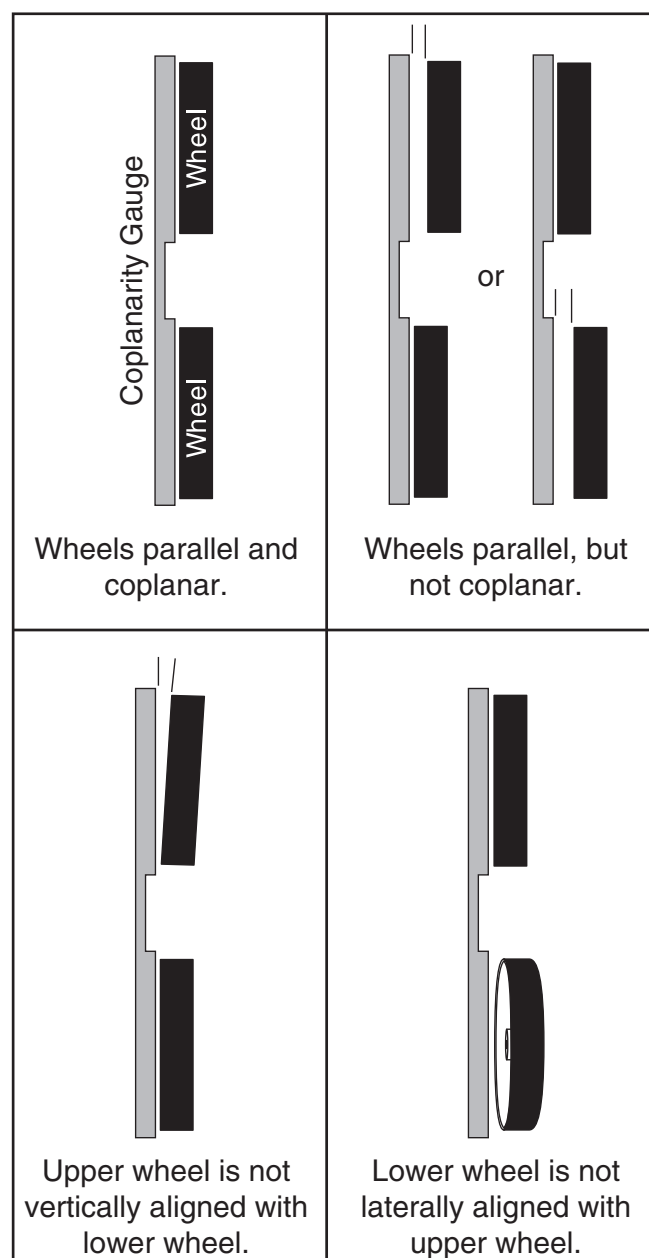

Figure 107. Wheel alignment illustration.
When wheels are coplanar (see **Figure 107**), the bandsaw is more likely to cut straight without wandering; and vibration, heat, and blade wear are considerably decreased because the blade is automatically balanced on the wheel.
1. Make "Coplanarity Gauge" shown in **Figures 107 & 108**.